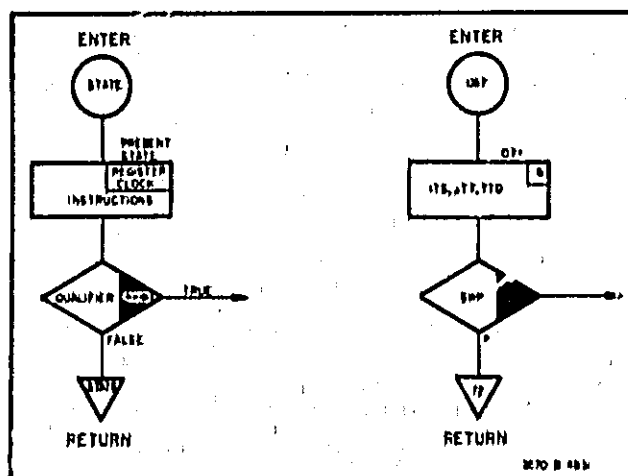

Figure 4-15. Flowchart Symbols.
4-82. The two main symbols in flowcharting are the rectangle and the diamond (see Figure 4-15). The rectangle indicates whether the present state is to be executed and also indicates the direct and alternate next states.
4-85. The instructions are two to four letter mnemonics which indicate an operation which is to be performed. See Figure 4-15 example (b). In example (b), the instructions are ITS, STT, and TTQ. They indicate that the I register is to be outputted onto the S Bus (ITS), the ALU will connect the S Bus to the T Bus (STT), and the T Bus will be inputted to the Q register (TTQ). Register Clock pulses are needed to strobe the data from the I register, through the Bus System, to the Q register. The number of Register Clock pulses is indicated in the upper right-hand corner of each rectangle. In the example, the number of clock pulses is six. All operations described in the rectangle occur simultaneously for the indicated state. We know that a state, when executed, lasts from one to sixteen Register Clock pulses. But what if the state is not executed? To determine whether the state will be executed or not is a function of the qualifier.
4-87. The qualifier is the output from the Data Selector. The input to the Data Selector is indicated inside the diamond. In Figure 4-15 example (b), the qualifier is a SWP (sweep) signal from an external instrument. If the qualifier is true, indicated by the (1) on the right side of the diamond, the D/A Diplexer will select the alternate address. If the qualifier is false (0), the D/A Diplexer will select the direct address.
4-88. There is also a shaded area on the right side of the diamond. This is the instruction inhibit indicator. See Figure 4-15 example (a). If the qualifier is true, the instruction in the preceding rectangle will be inhibited from executing. This will make the state last for one Register Clock period. The information transfer in example (b), between the I and Q register would not take place. The inhibit indicator can also be at the bottom of the diamond. This would mean that the instruction in the preceding rectangle would be inhibited if the qualifier were false. If the rectangle or